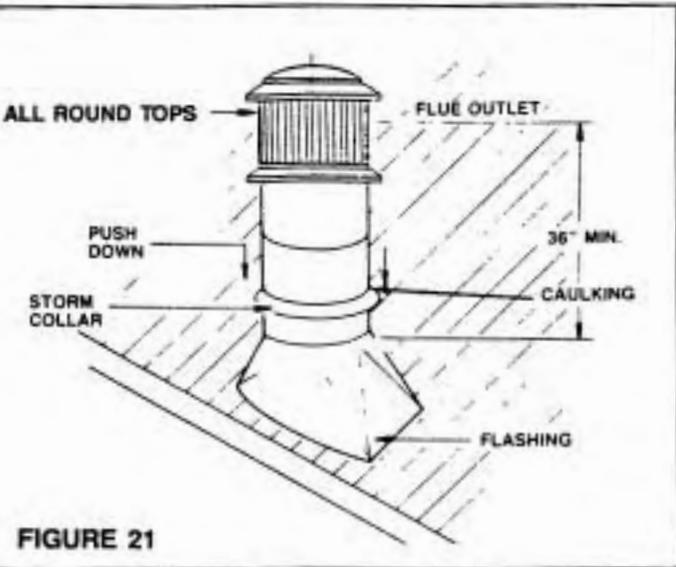

FIGURE 21
STEP 8: Install storm collar on the chimney and push down near the top of the flashing. Apply waterproof caulking around the top of the storm collar (Figure 21).